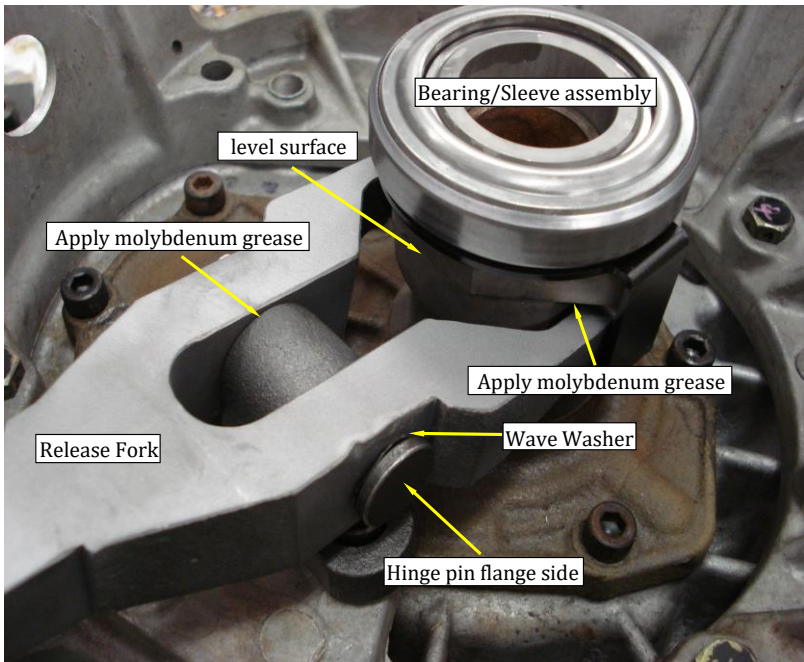

Fig. 3
10. Insert the hinge pin into the release fork and fork supporter with the wave washer attached with the collar on the upper side of the transmission housing, and fit the retainer plate into the groove of the hinge pin. (See Fig. 3)